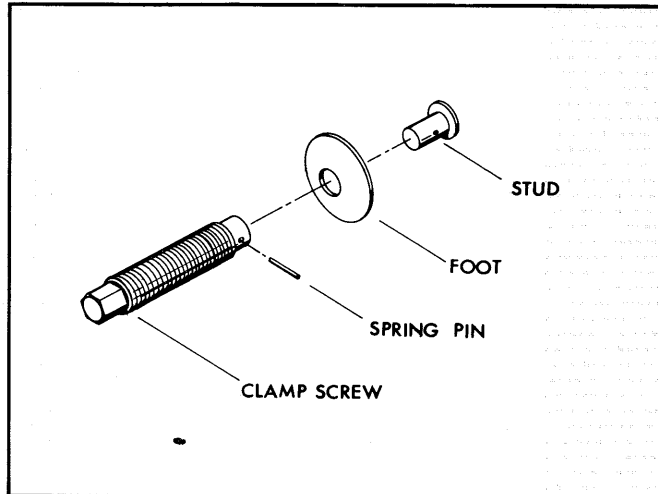

Figure 5a — Clamp Screw Assembly
- B. Place clamp screw foot on stud. Insert stud in bore of clamp screw aligning hole in stud with hole in clamp screw. See figure 5A.